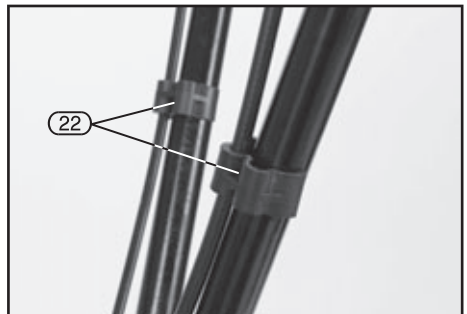

FIG.4
8.2 ATTACHING THE CABLE CLIPS- FIG. 4